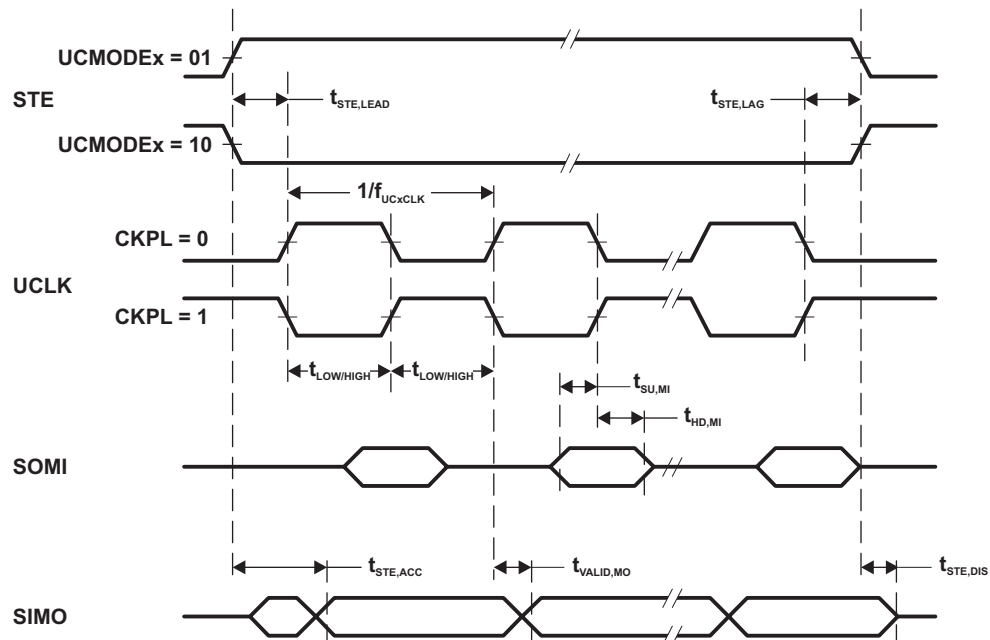
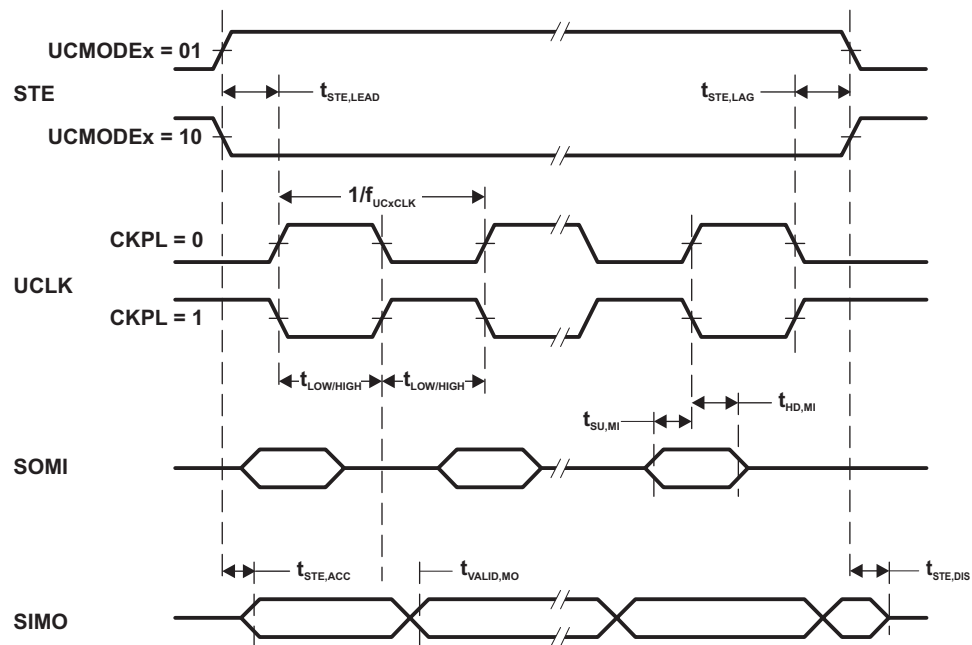

Figure 5-6. SPI Master Mode, CKPH = 0
Figure 5-7. SPI Master Mode, CKPH = 1
- (1) $f_{UCxCLK} = 1/2t_{LO/Hi}$ with $t_{LO/Hi} = \max(t_{VALID,MO(eUSCI)} + t_{SU,SI(Slave)}, t_{SU,MI(eUSCI)} + t_{VALID,SO(Slave)})$. For the slave's parameters $t_{SU,SI(Slave)}$ and $t_{VALID,SO(Slave)}$ see the SPI parameters of the attached slave.
- (2) Specifies the time to drive the next valid data to the SIMO output after the output changing UCLK clock edge. See the timing diagrams in Figure 5-6 and Figure 5-7.
- (3) Specifies how long data on the SIMO output is valid after the output changing UCLK clock edge. Negative values indicate that the data on the SIMO output can become invalid before the output changing clock edge observed on UCLK. See the timing diagrams in Figure 5-6 and Figure 5-7.